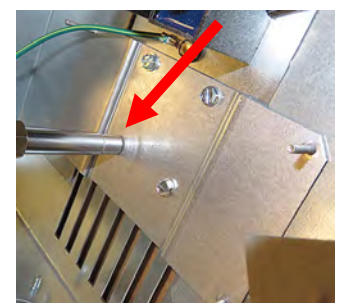

Figure 15
18. Using the four screws removed from step 14 above, attach the new supplied bracket to the assembly as shown (see Figure 15).